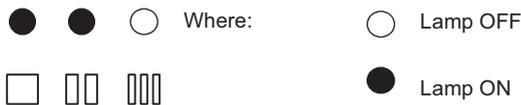

Figure 9.15
- Press the reset button 9 repeatedly (2 times) until the lamps 11 give the indication as in Figure 9.15 (boiler mode).